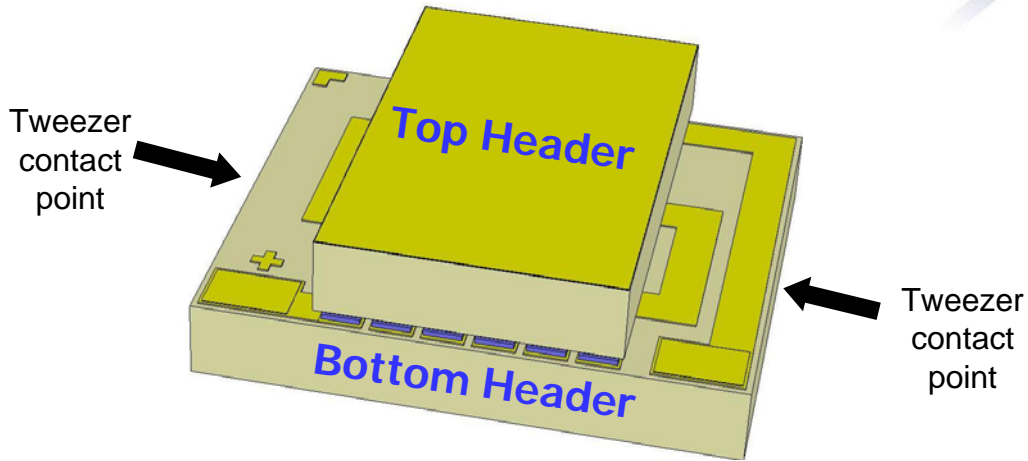

Fig. 3
3. Squeeze the tweezers and make contact with only the bottom header of the module only in the locations shown in Fig. 3.